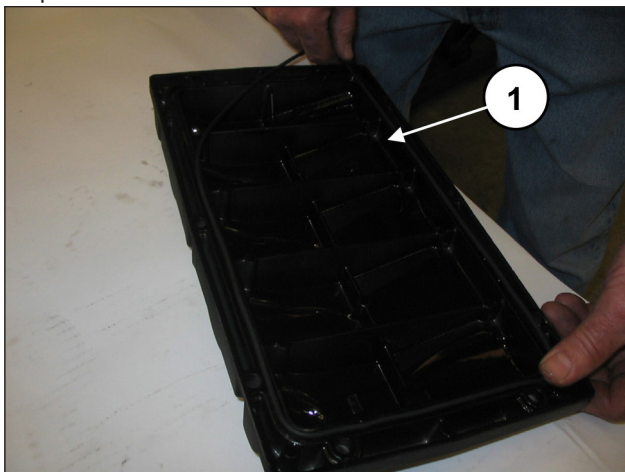
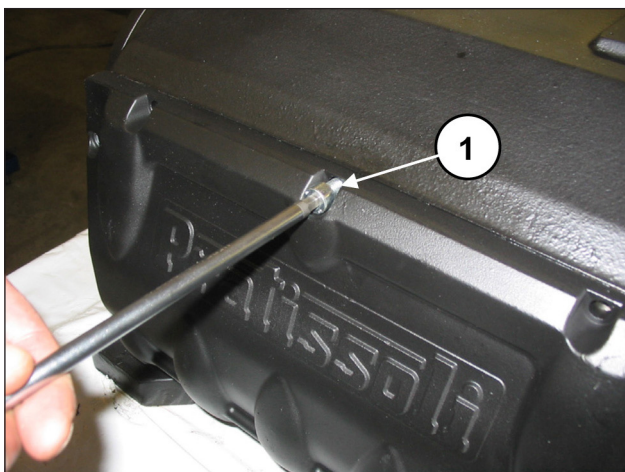

Fig. 74
Fig. 75
Insert the O-ring on the rear cover (pos. ①, Fig. 74) and fasten it to the casing with 10 x M8x18 screws (pos. ①, Fig. 75).